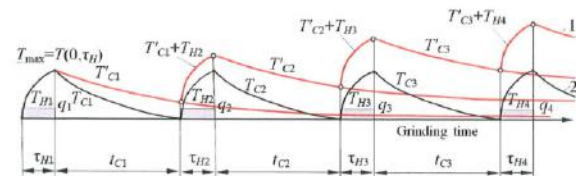

Figure 1 – Grinding temperature changing with accumulation heat energy (line 1) and without it (line 2)
**The grinding temperature growth can be seen in the following Figure 1**